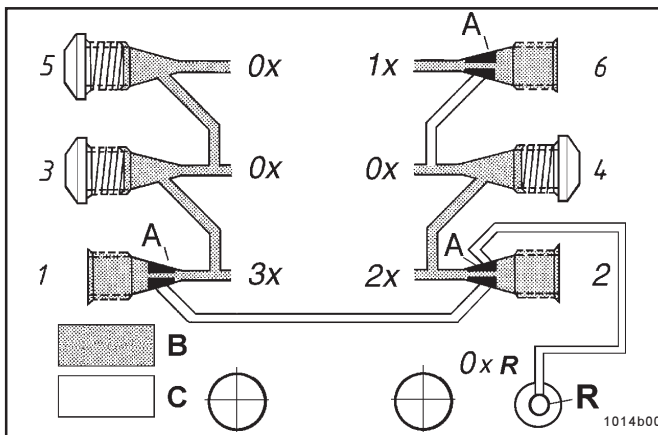

Fig.1 - Single double and triple lubricant output
- Lubricant from a plugged outlet is redirected to the next outlet on the same side of the SSV divider block in descending numerical order (see Fig. 1).
- For instance, plugging outlets 5 and 3 will triple the amount of lubricant to outlet 1. The connecting channel to outlet 2 is closed by means of the check valve's clamping ring (A).
- * Install a closure plug in each outlet port hole which is not required, see Fig. 1 or 4.
Important: One complete check valve must be installed in each outlet port hole used, see Figs. 1 & 4 to avoid draining the oil reservoir.
Important: If outlet 2 is connected to a lube point, outlet 1 **must not be closed**, see Fig. 1.